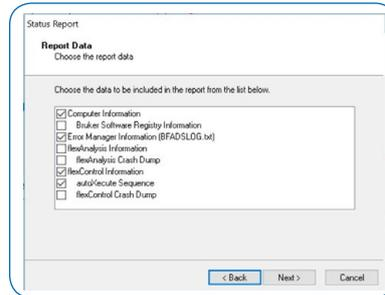

Figure 6.4 Status Report wizard, choosing data to be included in the status report
- In the next step, select all the data to be included in the zip file. Click on “Next” (see Figure 6.4)